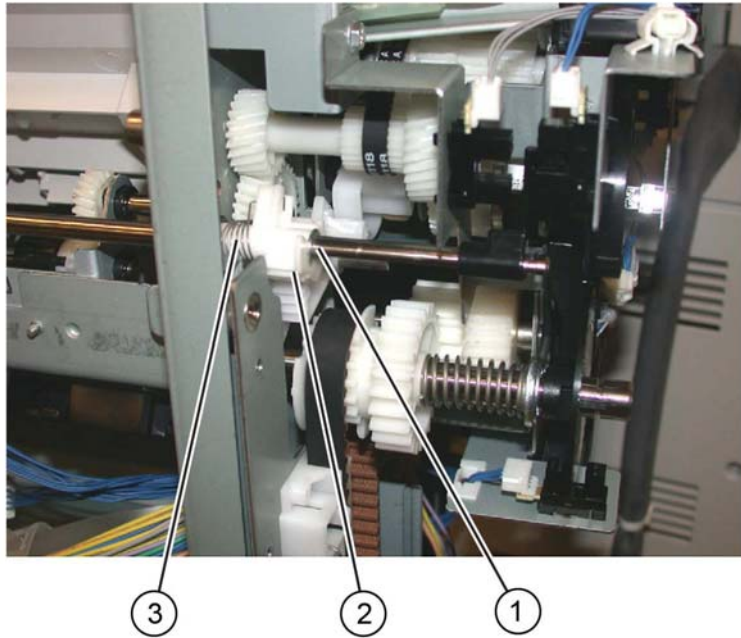

Figure 7 Prepare to remove the set clamp shaft
14. Prepare to remove the set clamp shaft, **Figure 7**:
- a. Remove the rear E-ring (1) from the set clamp shaft
- b. Slide the gear (2) away from the frame.
- c. Disconnect the spring (3) from the gear.